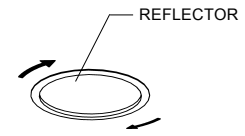

FIG. 8
3. Turn the reflector slightly clockwise to adjust it. (Fig. 8)
1. Align the mounting frame using the alignment marks. (Fig.8)
1. Mark the position of the lighting unit and close the ceiling. (Fig.8)